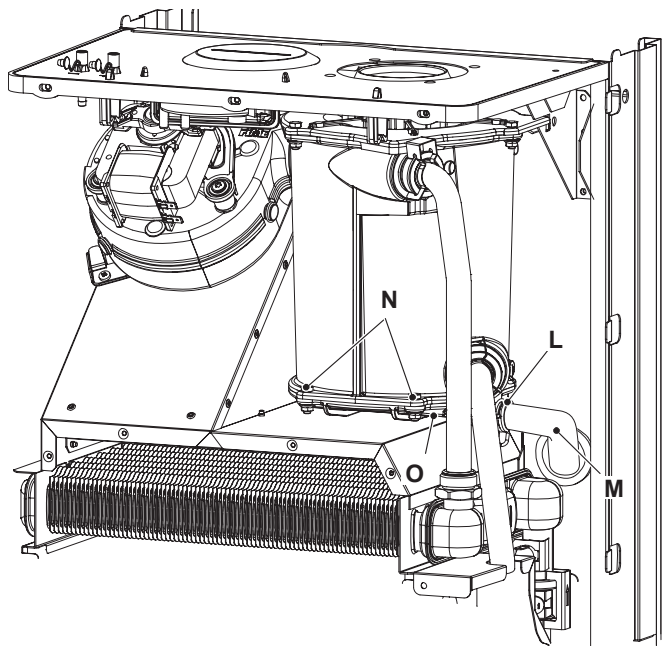

Figure 6.3
- 1 Using pliers, remove the spring L moving it to wards right and disconnect the rubber pipe M (Figure 6.3).
- 2 Unscrewing the screws N (Figure 6.3).
- 3 Remove the condensing heat exchange lid O (Figure 6.3) moving to rewards the front of the boiler.